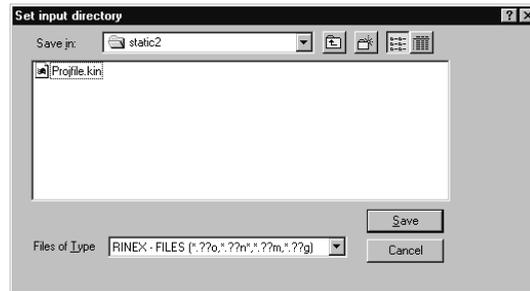

Figure B.2. Set Input Directory Dialog Box
1. In the **RINEX to Ashtech** dialog box, click **Input dir** to open the **Set input directory** dialog box (Figure B.2).